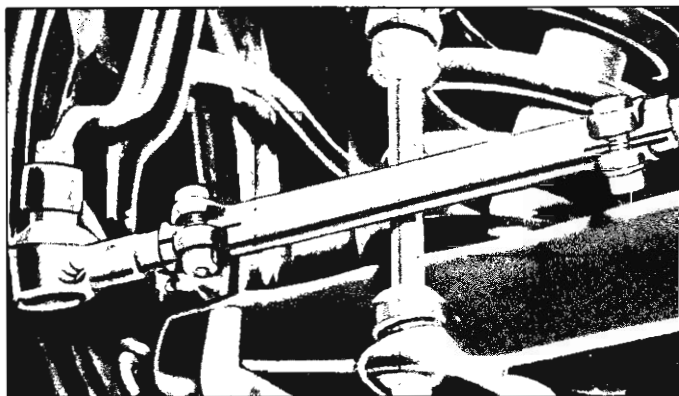

Fig. 57—Tie Rod Clamp Position
**NOTE:** Before locking clamp bolts on the rods, make sure that the tie rod ends are in alignment with their ball studs (each ball joint is in the center of its travel). If the tie rod is not in alignment with the studs, binding will result. Also, be certain inner tie rod clamp is pointed forward and downward to prevent stabilizer link bolt interference on turns (fig. 57).